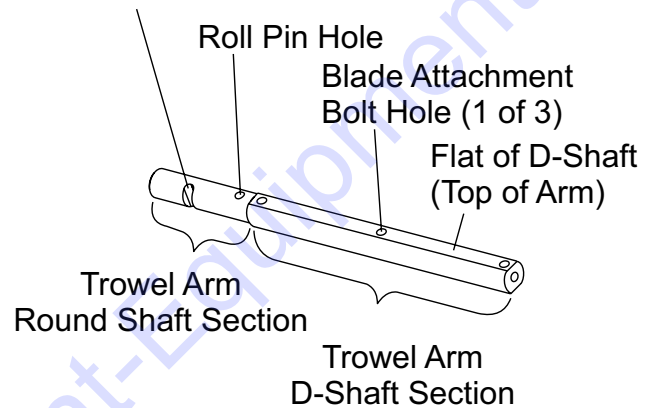
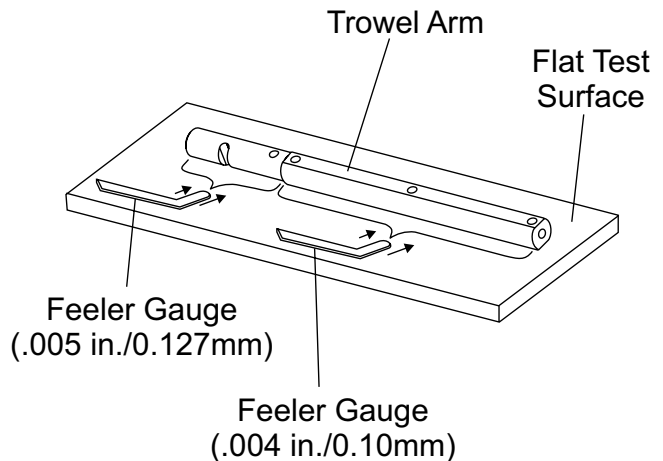

Figure 48. Trowel Arm
Figure 49. Checking Trowel Arm Flatness
Trowel arms can be damaged by rough handling (e.g. dropping the trowel on the pad), or by striking exposed plumbing, forms or rebar while in operation. A bent trowel arm will prevent the trowel from rotating in a smooth, fluid motion. If bent trowel arms are suspected, check for flatness as follows. Refer to Figure 48 and Figure 49.
- Use a thick steel plate, granite slab, or any surface which is true and flat (Figure 49) to check all six sides of each trowel arm for flatness.
- Check each of the six sides of the trowel arm hex section. A feeler gauge of .004 inch (0.10 mm) should not pass between the flat of the trowel arm and the test surface along its length on the test surface. See Figure 49.